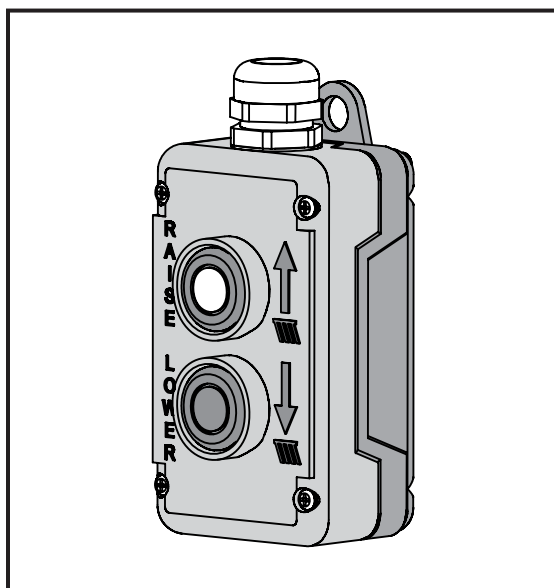
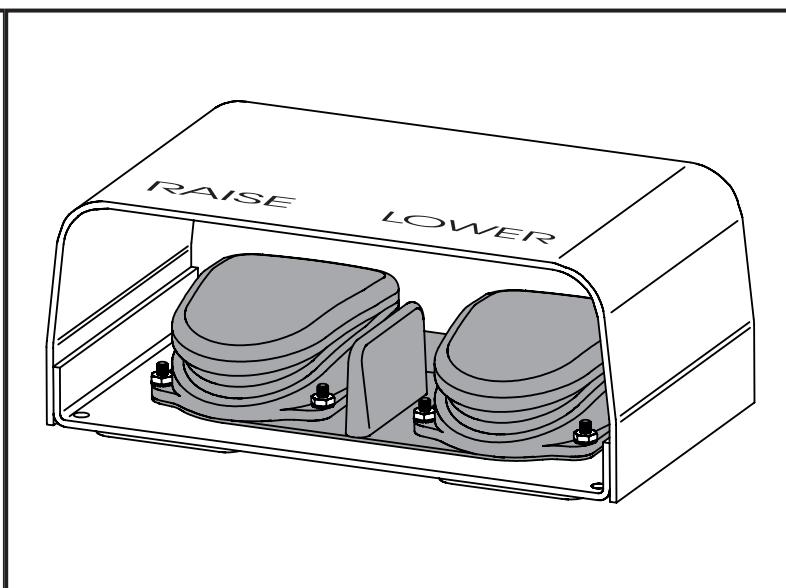

Figure 8 - Hand Control Operation
Figure 9 - Foot Control Operation
4. Locate the lift's hand control (See Figure 8) and depress the "RAISE" button to raise the lift to its maximum raised height. In the case of a foot control (See Figure 9), depress the "RAISE" pedal to raise the lift. Following the Maintenance Catch Operating Instructions on page 7, engage the maintenance catch on each side of the lift. **DO NOT** lower the lift to engage the catches at this time.
2. As shown in Figures 8 and 9, depress the "Raise" button or pedal to raise the platform to a convenient position. CONTINUOUSLY WATCH the condition of the load as the platform is raised. If the load appears to be shifting STOP, lower the platform and adjust the load.
2. Depress the lowering button or pedal (see Figures 8 and 9) to lower the lift platform. CONTINUOUSLY WATCH the condition of the load as the platform is lowering. If the load appears to be shifting, STOP and adjust the load.